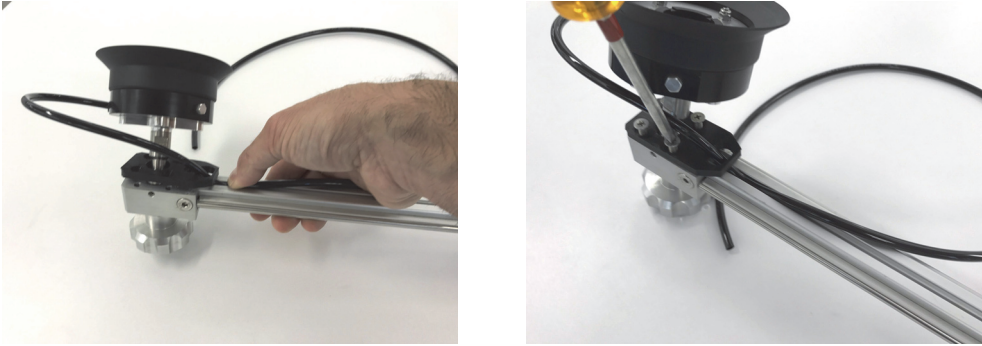

Figure 2-9 Pushing the tube into the frame (*left*) and tightening the screws (*right*)
4. Push the tube into the slot near the frame end, and install the new mounting pod on the bracket on the frame (see Figure 2-9 on page 33).